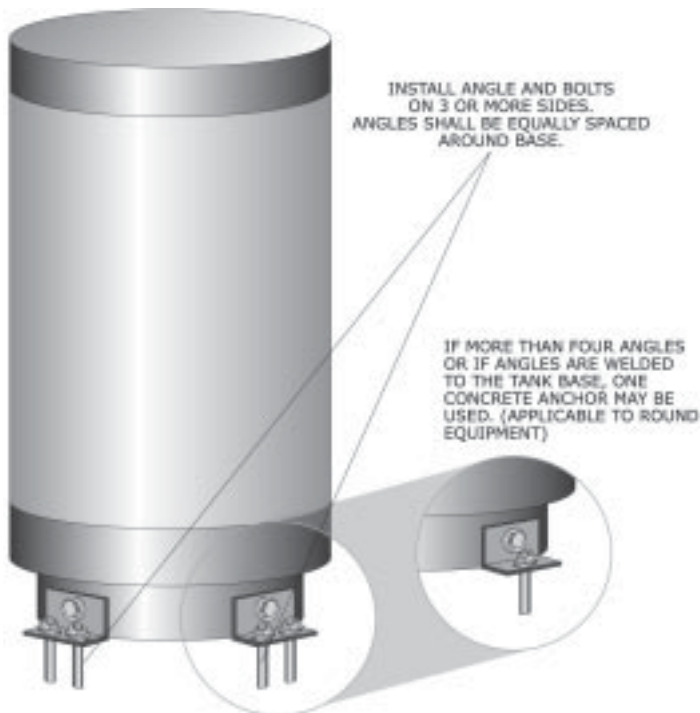

Figure 81: Three or more angles used to bolt down equipment with a round base.
- Three or more angles used to bolt down equipment with a round base, (Figure 81, page 58).